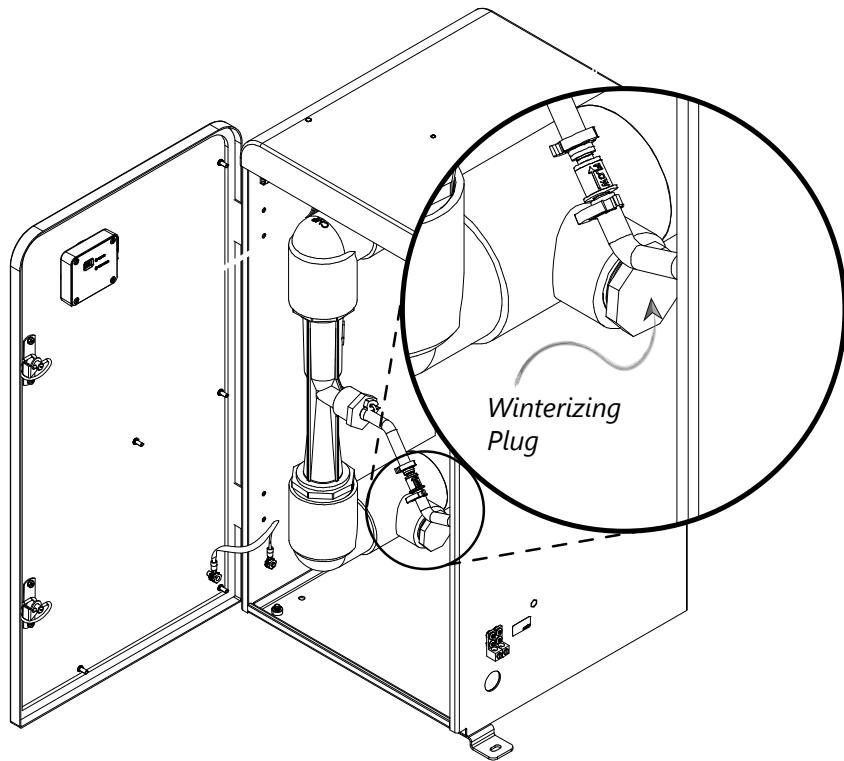

Figure 9: Winterizing Plug Location
3. Locate the 1" NPT drain plug (Refer to Figure 9) and remove to drain the remaining water.